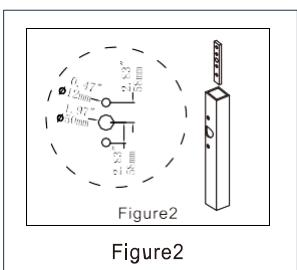

Figure2
2. Drill holes on square pole, put the bar adapter inside the lamp pole. (Figure 2)